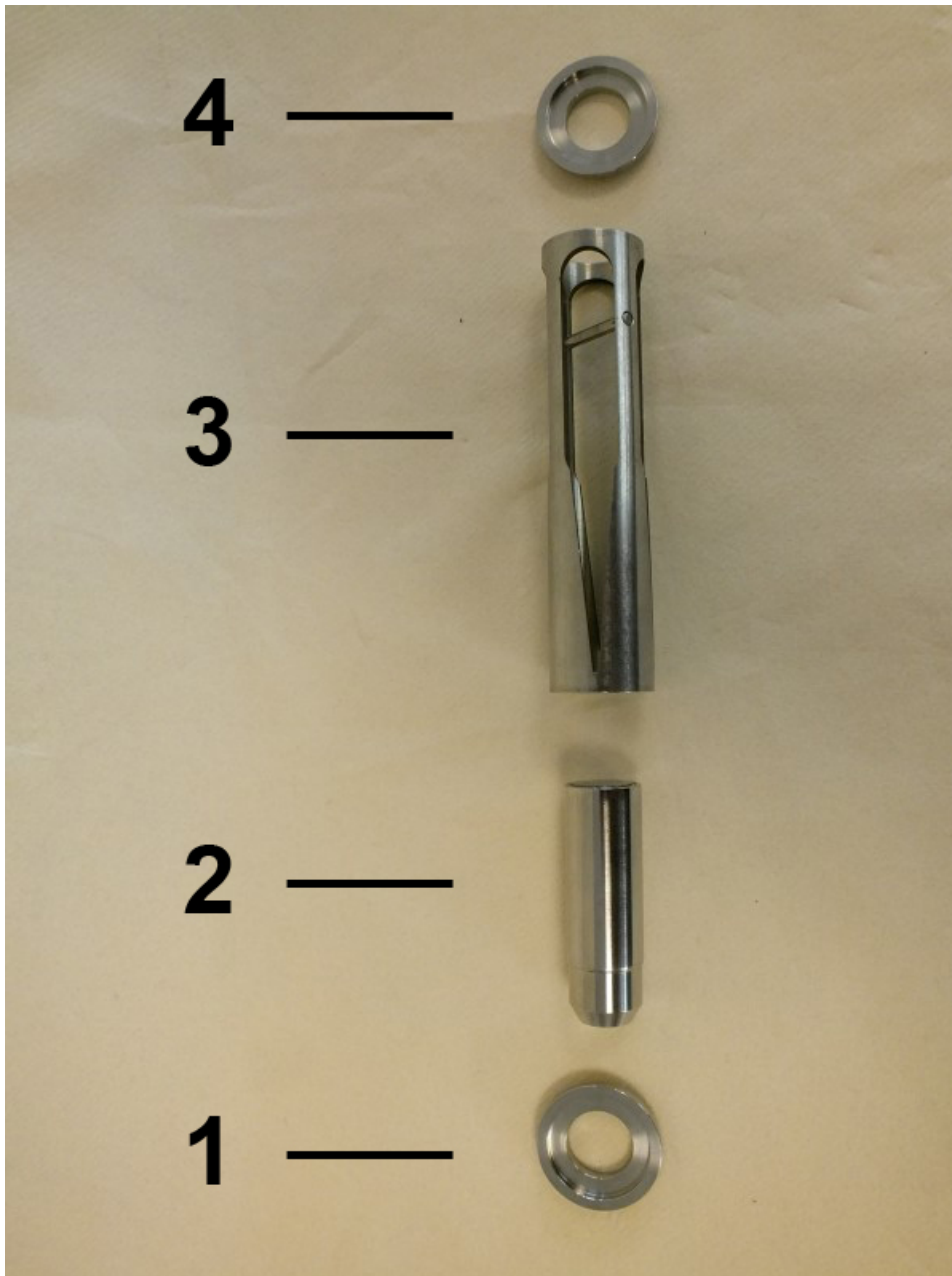

Fig. 45: Inner parts DWM
- 5.** The inner parts of the flow monitor consist of the centering disc (inlet) (*Fig. 45/1*), float (*Fig. 45/2*), slot nozzle (*Fig. 45/3*) and centering disc (outlet) (*Fig. 45/4*).